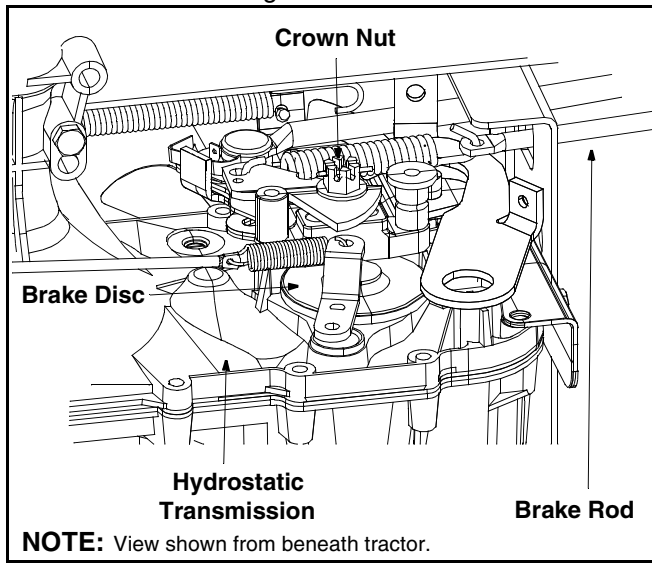

Figure 10
- Looking at the transmission from the right side of the tractor, locate the compression spring and brake disc. See Figure 10.